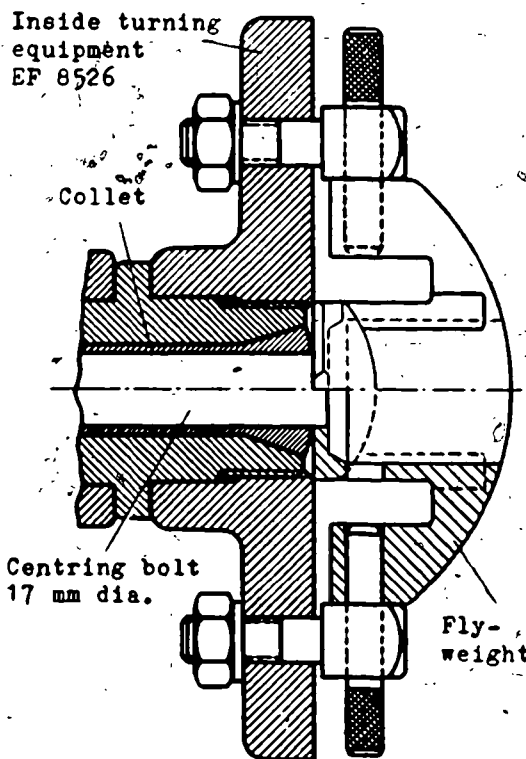

Fig. 4 Permissible overhaul dimensions for flyweights
The flyweights (37) should be specially inspected for worn supporting surfaces of the inner spring plate (see Fig. 4).